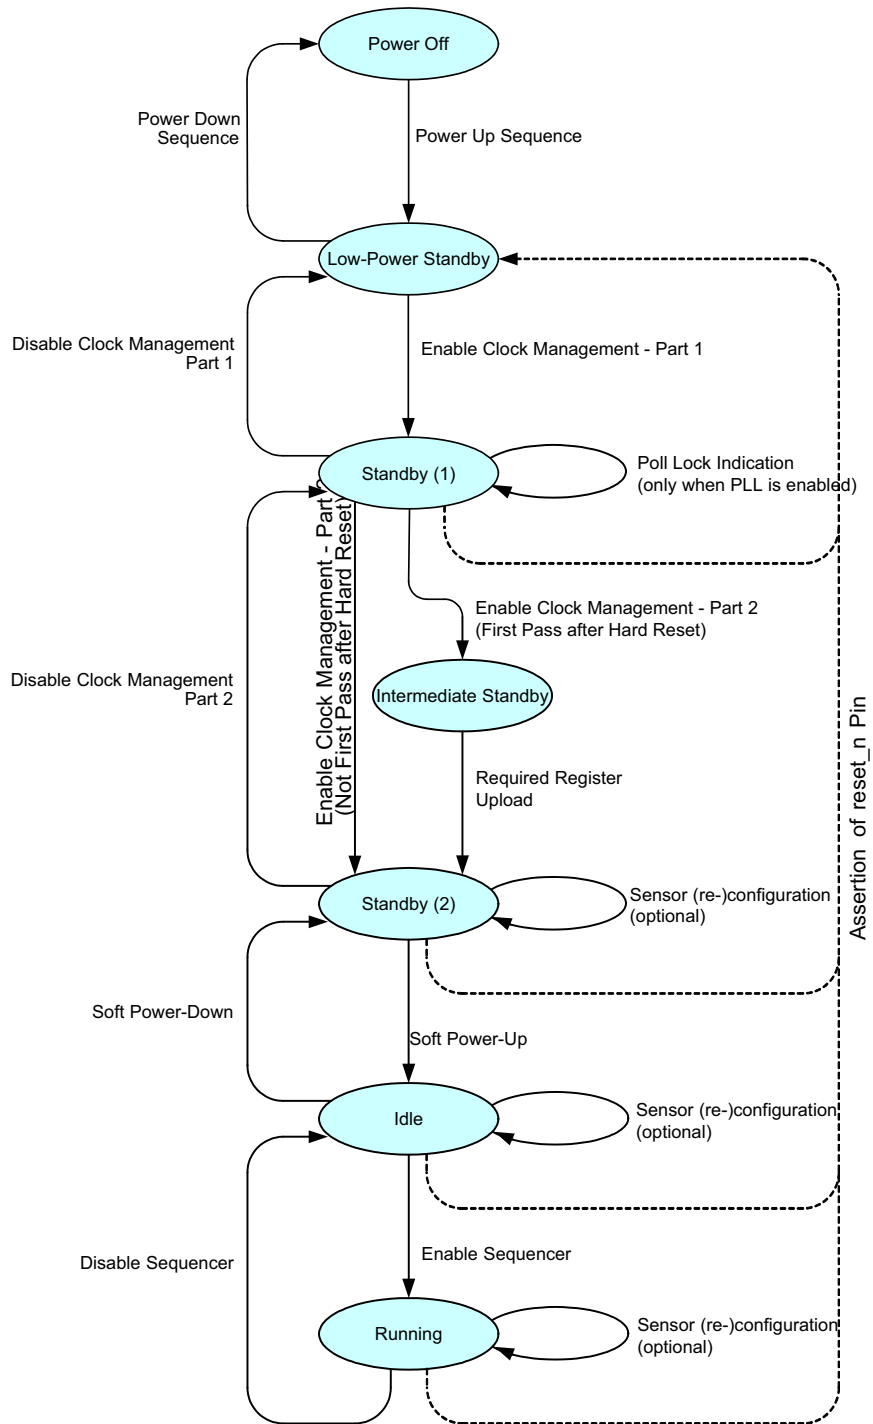

Figure 15. Sensor Operation Flowchart
Figure 15 shows the sensor operation flowchart. The sensor has six different 'states'. Every state is indicated with the oval circle. These states are Power off, Low power standby, Standby (1), Standby (2), Idle, Running.
Check the PLL_lock flag 24[0] by reading the SPI register. When the flag is set, the ‘Enable Clock Management– Part 2’ action can be continued. When PLL is not used, this step can be bypassed as shown in Figure 15 on page 15.